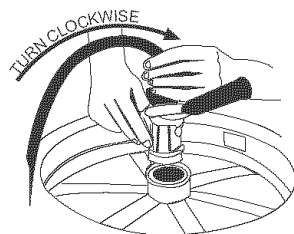

fig. 2
2. Attach the open end of the red air line hose to the hose barb connection on the keg coupler. Next, secure the hose by using the remaining self-locking plastic snap-on clamp to ensure that there are no leaks. Secure the clamp tightly with pliers. (see fig. 2)